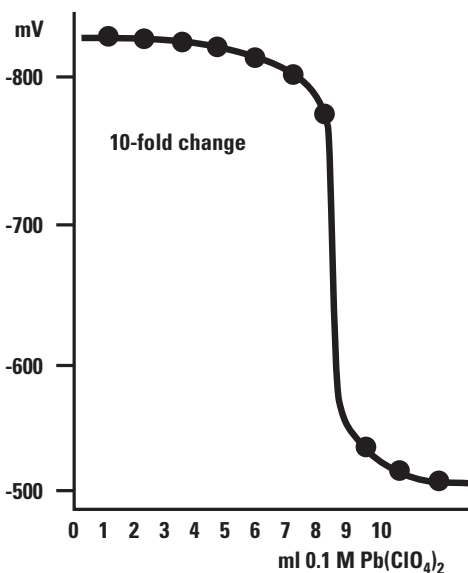

Figure 5– Typical Titration of 25 mL of 0.03 M Sulfide Sample (Before Dilution) with 0.01 M $\text{Pb}(\text{ClO}_4)_2$
2. Use a 10 mL burette to add increments of titrant to the beaker. Plot the electrode potential against mL of titrant added. The endpoint is the point of the greatest slope (inflection point). See **Figure 5**.